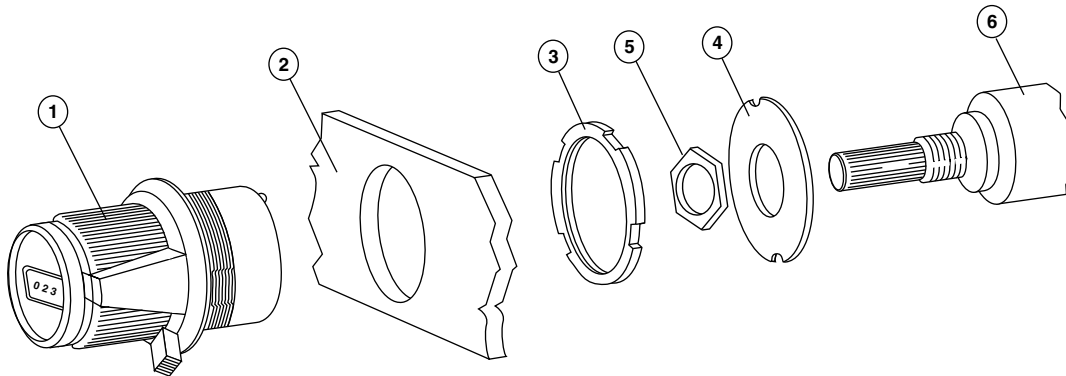
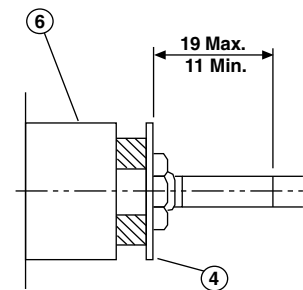

Fig. 1
Fig. 2
1. Cut 28.1 mm dia hole in panel (2).
2. Fit anti-rotation washer (4) to potentiometer (6) using potentiometer nut (5) supplied, making sure that not more than 19 mm of the shaft length is protruding from the anti-rotation washer (4) figure 1.
4. Place potentiometer through mounting nut (3) and panel (2).
5. Insert mechanism (1) through hole from the opposite side of panel and locate onto anti-rotation washer, lock in place with mounting nut (3) figure 2.